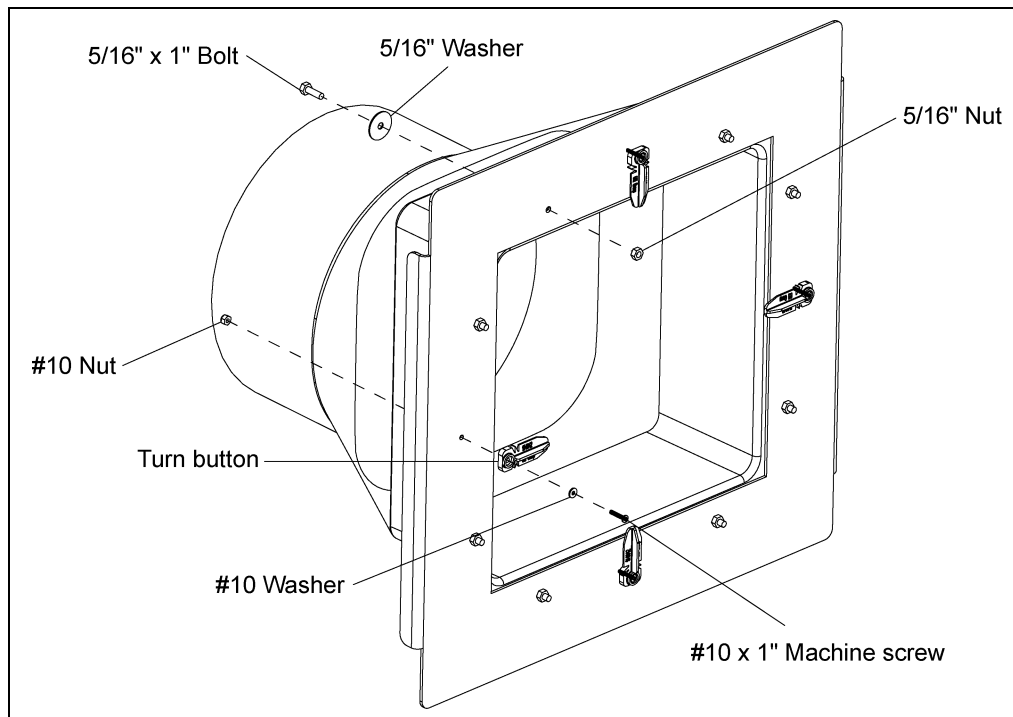

Figure 2E
Once holes are drilled, remove adapter plate and place in position as shown in Figure 2E. Fasten the adapter plate to the fan housing as shown using eight (8) bolts, washers and nuts. Next, attach the four (4) plastic turn buttons to the plate using the fasteners as shown in Figure 2E.